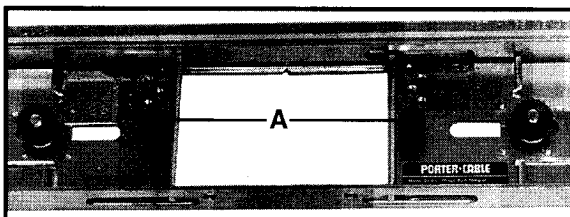

Fig. 10
1. Install two jamb stop pins (A) Fig. 10, in each templet section in the correct holes for the thickness of the door being hung. (In the case of the example being used, the pins would be installed in the holes marked 1 $\frac{3}{8}$ ".)
3. Starting with the top templet section butt pins (A) Fig. 10, against edge of door jamb and drive nails. Repeat for center section and lower section.